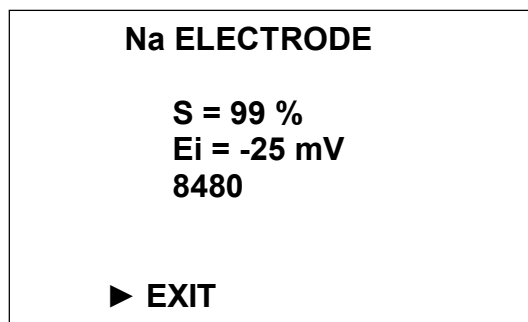

Fig. 2.33
- 31 Move pointer "▶" to **EXIT** line and press "menu" button. The display shown in Fig. 2.33 shall come up.